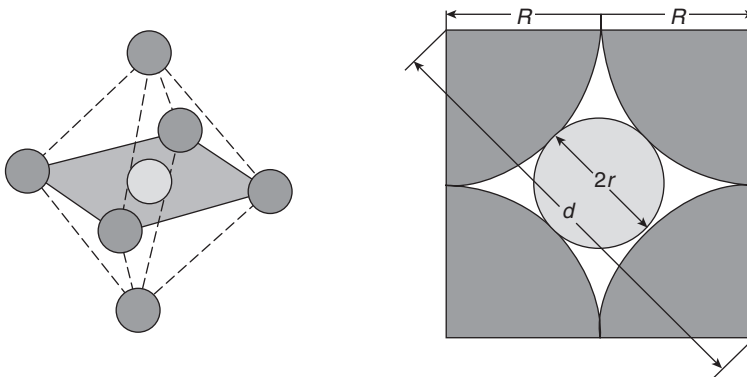

Figure 19 Representation of octahedral void.
2. **Octahedral void:** From the geometry shown in Figure 19: